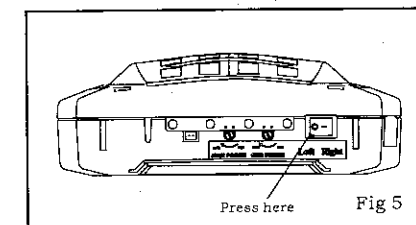

Fig 5
**LEFT-hand side installation:** open the Light Cover underneath the opener and press the switch button down/on to the mark workLEFT side (See Fig 5).